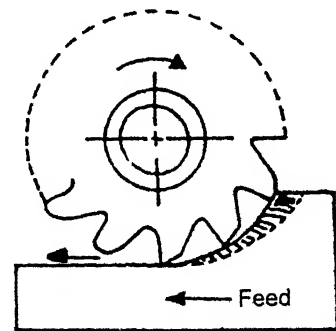

Fig. 10.45. Downmilling process.
- In **downmilling process** (Refer to Fig. 10.45), the workpiece is fed in the same direction as that of the cutter's tangential velocity.